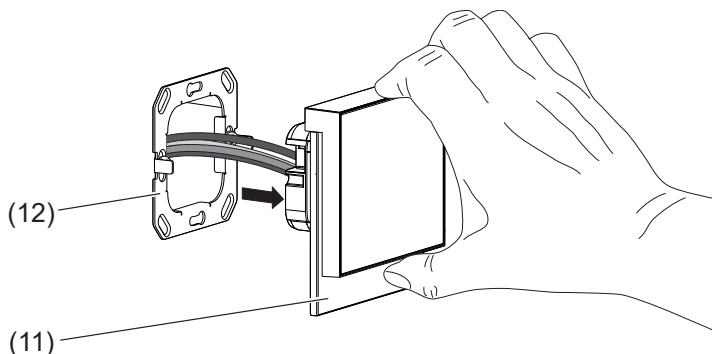

Figure 12: Dismantling
- Pull device out of wall box (Figure 12).